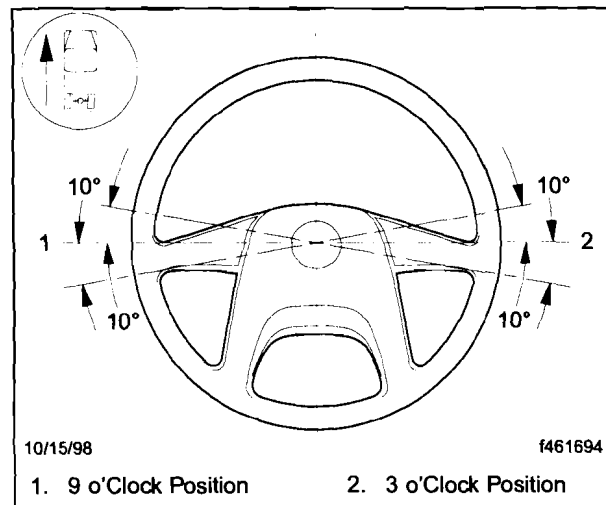

Fig. 4, Steering Wheel Centered
- 20.1 Install the steering wheel. The steering wheel should be within ± 10 degrees of center as shown in Fig. 4.
- 21.2 Remove the tape from the clockspring, align the tab on the clockspring with the cutout below the center hole on the steering wheel, and place the steering wheel on the steering column. Make sure that the steering wheel is within ± 10 degrees of center as shown in Fig. 4. Install the wheel nut and tighten 55 to 65 lbf-ft (75 to 88 N-m).